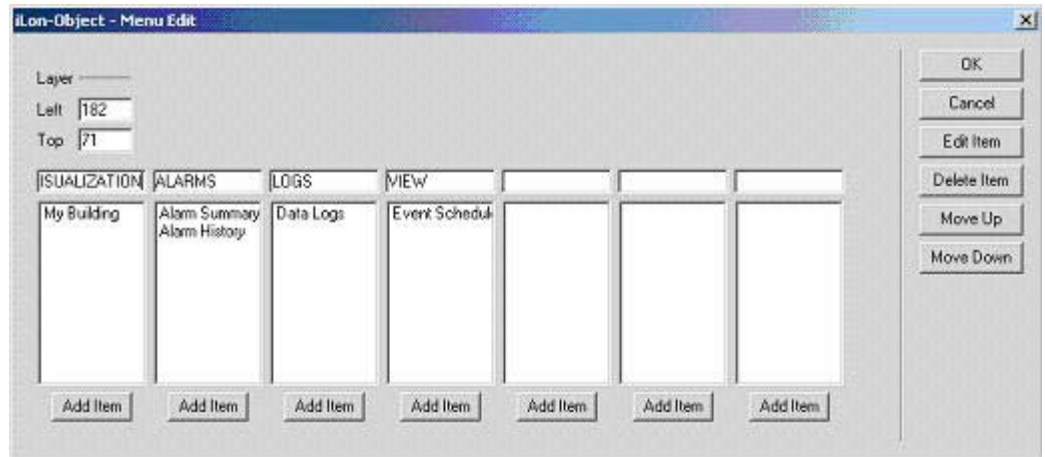

Figure 13.54 Menu Edit Dialog
6. Click the menu object and then click **Properties** to begin configuring the menu. The dialog shown in Figure 13.54 opens.
1. Fill in the menu names. The dialog shown in Figure 13.54 includes four menus - **Visualization**, **Alarms**, **Logs**, and **View**. You can optionally change or remove these names by changing them on the dialog. You can enter names for new menus in the blank menu heading boxes on the right.